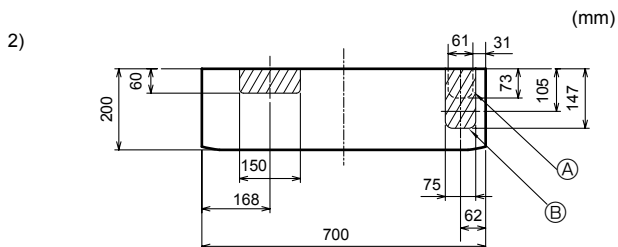

Fig. 3-8
2) For right downward or left downward piping (Fig. 3-8)